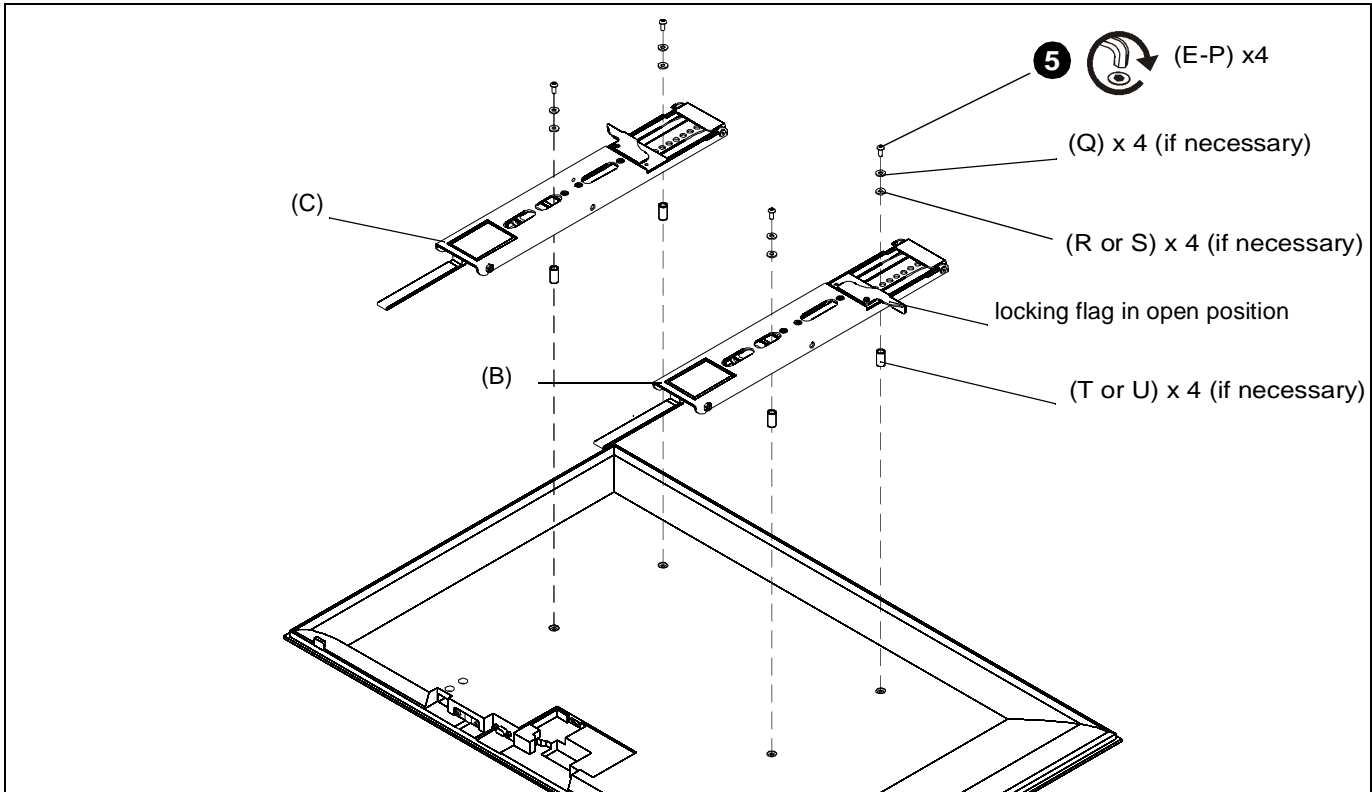

Figure 4
5. Install four button head cap screws (E-P) through required washers (Q) and spacers (R-U), interface brackets (B and C) into holes on back of display. (See Figure 4)